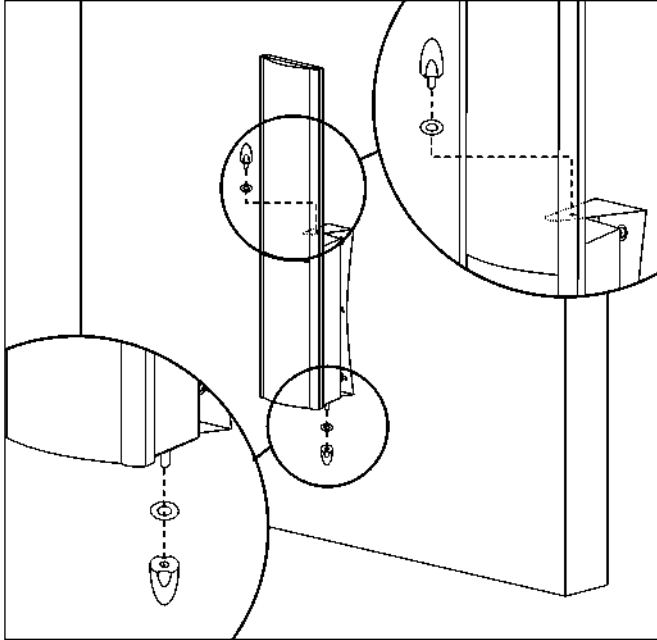

Figure 7.
- 8 Position a black rubber spacer over the threaded hole in the top of the speaker cabinet and carefully pivot the top of the Script into the wall bracket. Carefully move the speaker cabinet so that the center of the rubber spacer, the top-support hole, and the threaded hole on top of the Script cabinet are aligned. You may find it helpful to secure the rubber spacer over top of the wall brackets top support hole with loosely applied masking tape that you can easily remove once the knob is in place. Insert the male threaded knob through a fiber washer, the wall bracket and rubber spacer, and into the speaker cabinets threaded hole (see figure 7).
- 9 Install the female knob on the bottom of the Script by threading a fiber washer onto the threaded stud projecting for the bottom of the speaker cabinet, then screwing the female knob onto the threaded stud (see figure 7).